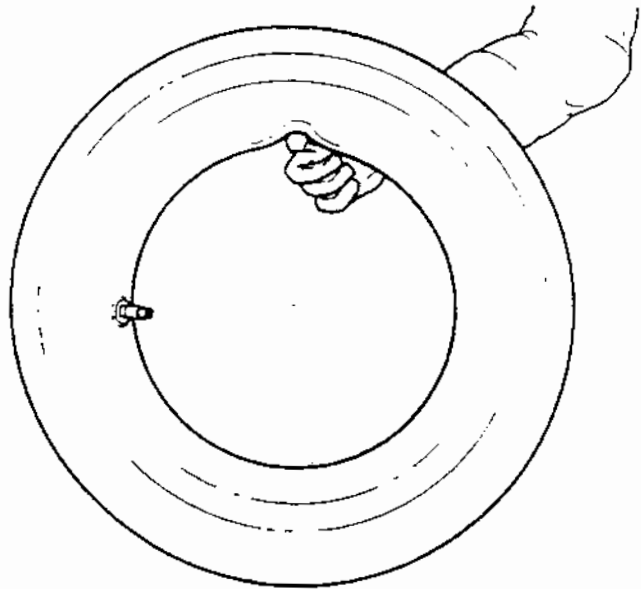

Fig.24
C. Inflate the tube slightly: if held with the index finger it should bend a little (Fig.24).